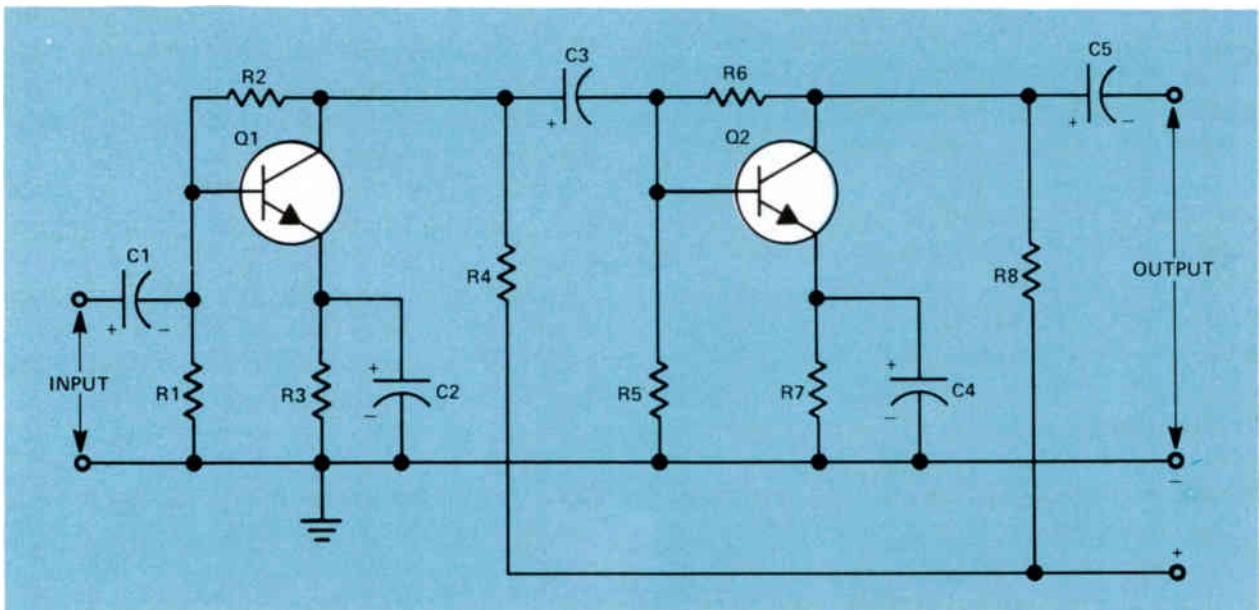
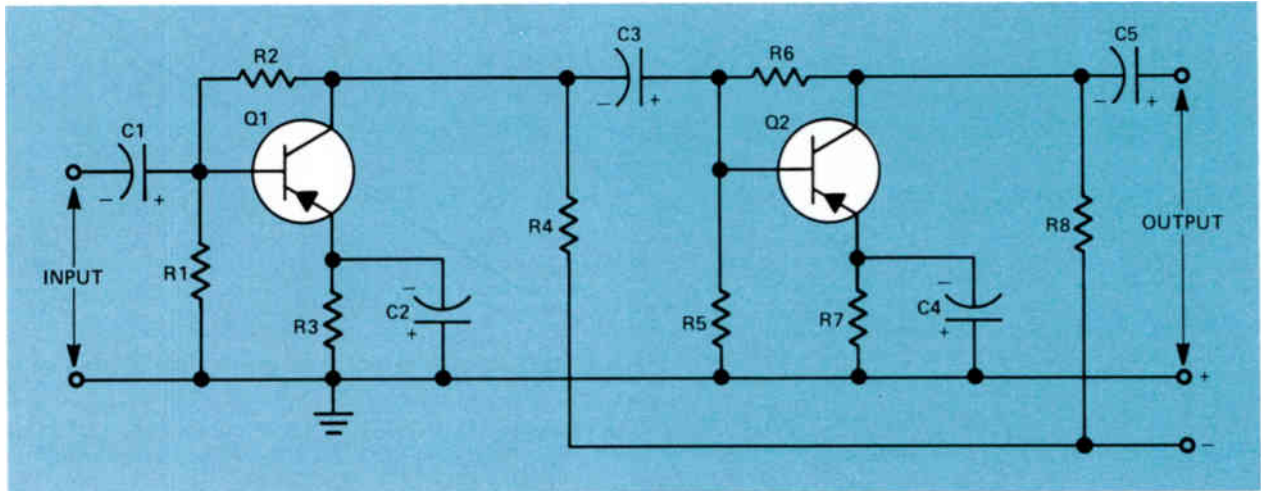

Figure 1. A two-stage RC coupled amplifier using npn transistors.
Figure 2. A two-stage RC coupled amplifier using pnp transistors.
In Fig.1, we've shown a typical two-stage transistor RC coupled amplifier using npn transistors. We are going to explain the operation of this amplifier in considerable detail because it is very important that you understand exactly how it works. After you have studied this amplifier, you will study another two-stage amplifier using pnp transistors.
The input signal to be amplified is fed into the input terminal in Fig.1 and coupled through C1 to the base of Q1. C2 holds the emitter at ground potential insofar as the signal is concerned, because it has a high capacitance and therefore a very low reactance. The signal is applied directly between the base and the emitter of the transistor. It is in series with the forward bias across the emitter-base junction.
When amplifiers are connected one stage after another as they are in Fig.1, we say they are connected *in cascade*. The total gain of the two amplifiers will be equal to the product of the gain of each stage. If each stage in the
example shown in Fig.1 has a gain of 10, the total gain will be 100. Suppose we feed a signal of 10 millivolts into the first stage having a gain of 10. At the output, the signal should have an amplitude of 10 millivolts times 10 equals 100 millivolts. Now, we feed the 100 millivolts into the second stage, where it is again amplified by a factor of 10. We then have 100 millivolts times 10 equals 1000 millivolts or 1 volt.
In Fig.2, we've shown a typical two-stage RC coupled amplifier using pnp transistors. The operation of this amplifier is basically the same as the one shown in Fig.1, except that the power supply connections are reversed and the carriers through the transistors will be holes instead of electrons. Notice that we have obtained the forward bias for the emitter-base junction for each transistor in the same way as we did for the npn transistors in Fig.1. Also, notice in Fig.2 that resistors R3 and R7 in the emitter circuit of each transistor, are used to prevent thermal runaway.
Even though the operation of this two-stage amplifier is basically the same as the one shown in Fig.1, we are going to explain its operation in considerable detail. Read over the explanation carefully in order to note the differences between these two amplifiers.
Notice that we have the same situation in Q1 in Fig.2 that we had in Q1 in Fig.1. The positive-
- 2 In the circuit shown in Fig.2, if the input signal voltage swings in the positive direction, what will happen to the collector voltage on Q1?